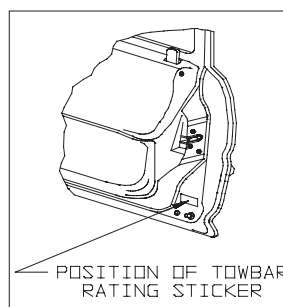

Figure 2
8. Affix the towbar rating sticker conspicuously on the inside rear end of the driver side door. Refer to Figure 2.